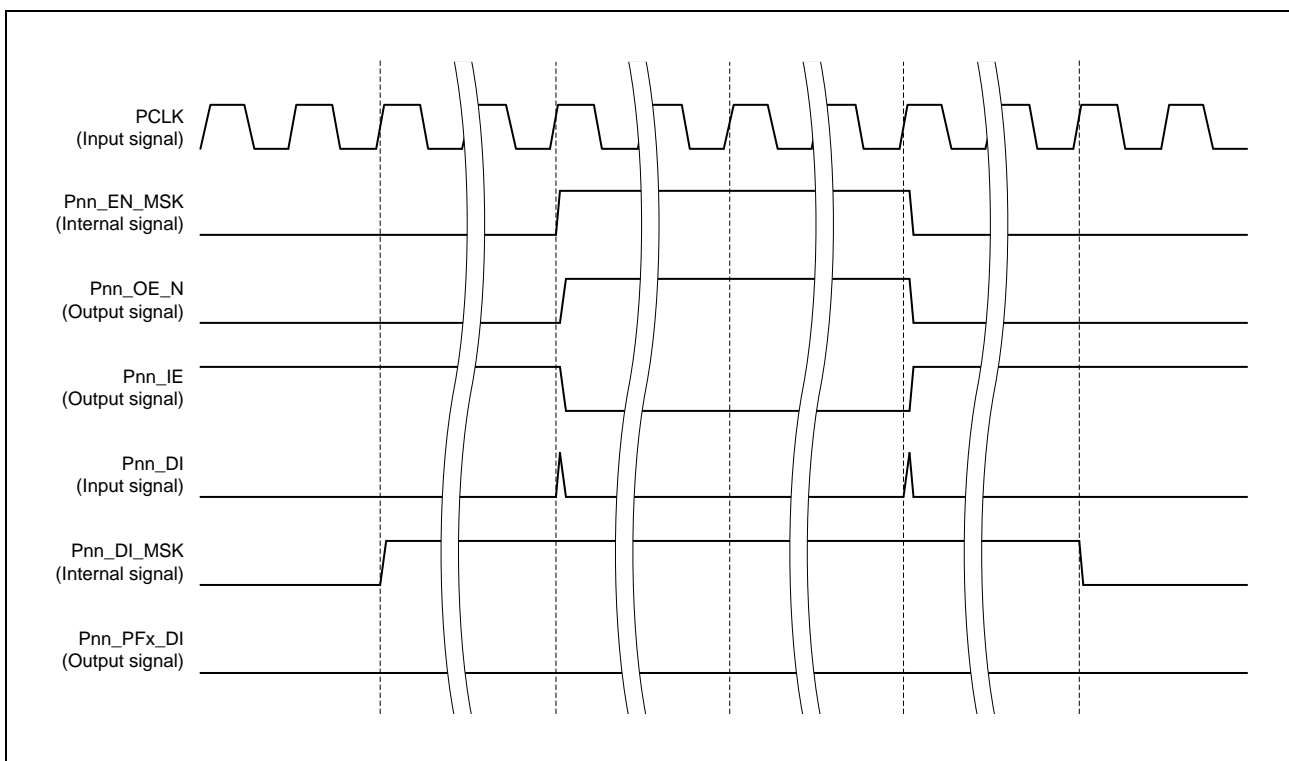

Figure 32.5-2 Example of Output Waveforms of Data when Switching Input/Output Enable Masking
**Figure 32.5-2** shows an example of output waveforms of Pnn\_DO, Pnn\_OE\_N, and Pnn\_IE when switching the multiplexed pin function.